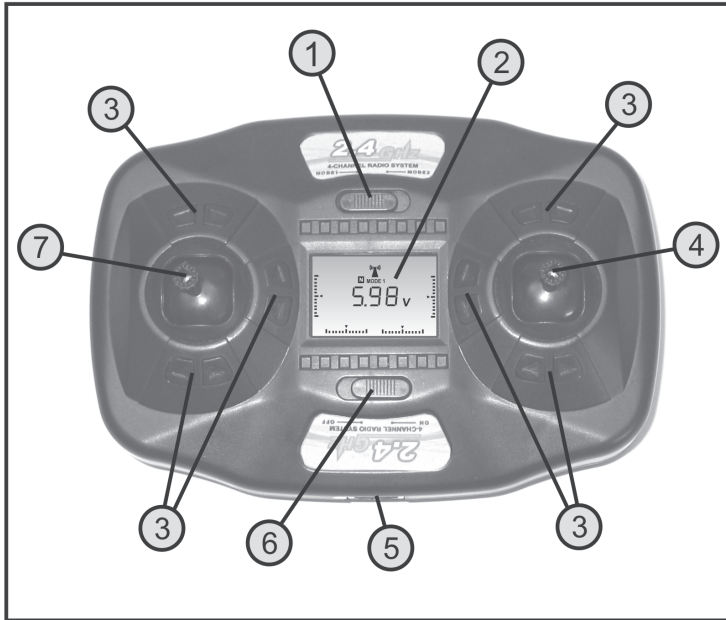
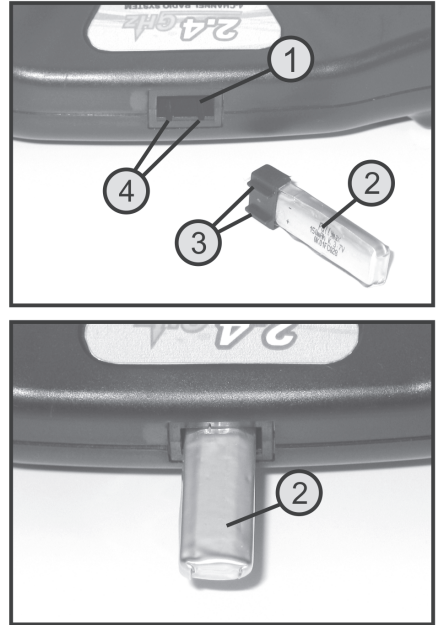

Figure 1
Figure 7
Slide the function switch (also see figure 1, item 6) from the position „OFF“ to the position „ON“.
Set the mode switch (see figure 1, item 1) in the desired position with the transmitter switched off and switch on the transmitter with the function switch (see figure 1, item 6).
When you have pushed the flight battery into the charge chute to the stop (see lower illustration of figure 7), switch on the transmitter with the function switch (also see figure 1, item 6).